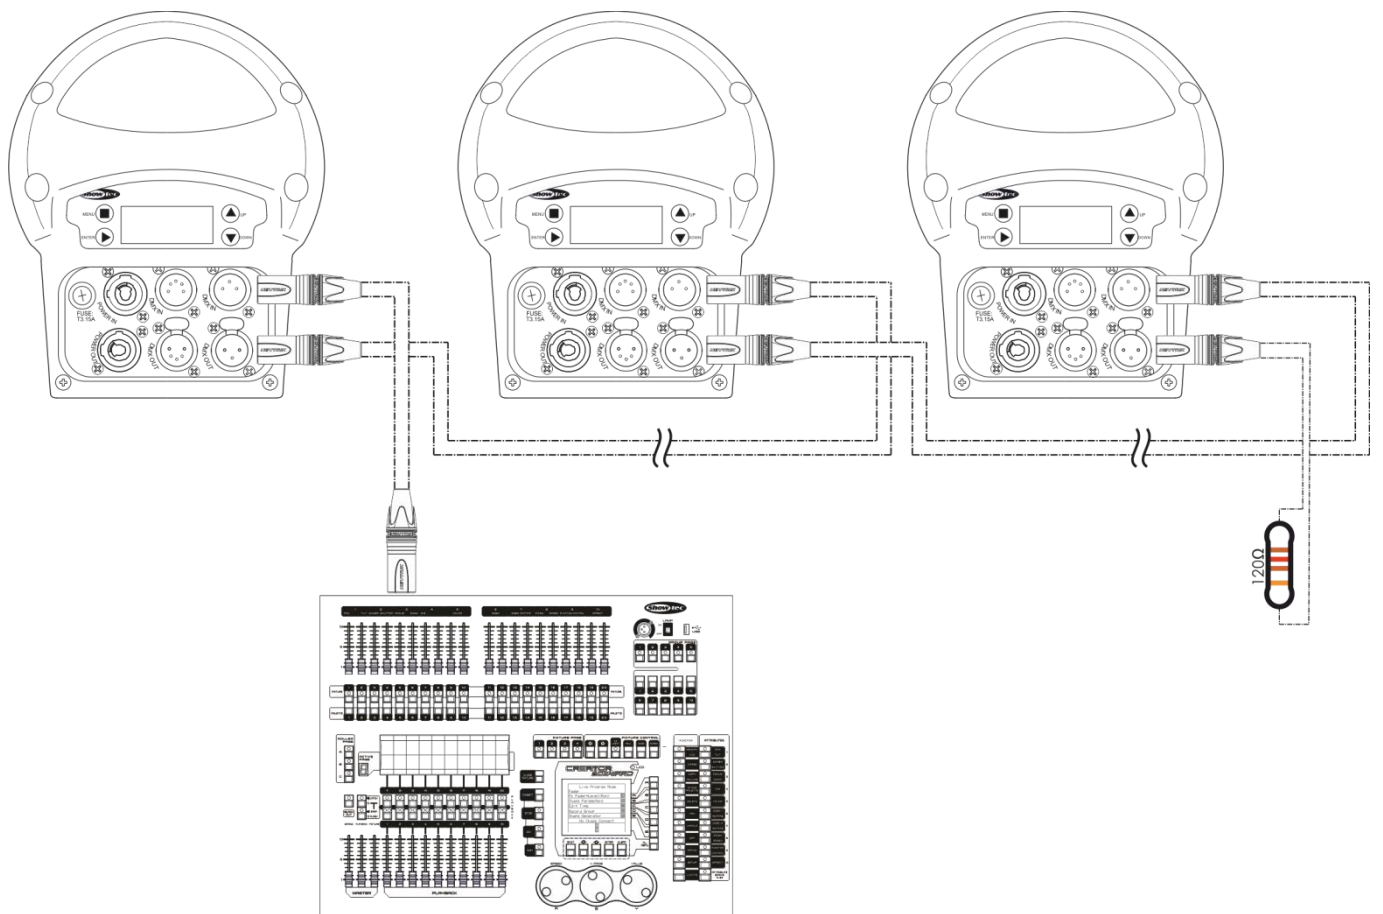

Fig. 13
- 04) Link the units as shown in fig. 13. Connect the first unit's DMX "out" socket with the second unit's "in" socket, using a DMX-signal cable. Repeat this process to link the second, third, and fourth units.